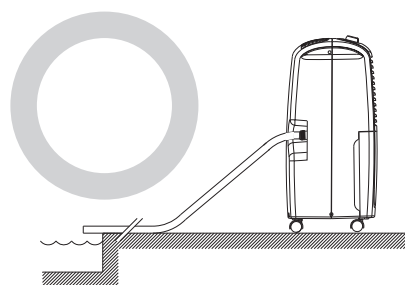

fig. 6
- 5) Make sure the end of the hose is no higher than the spout or water could remain in the tank. Make sure there are no kinks in the hose (fig. 6/7).